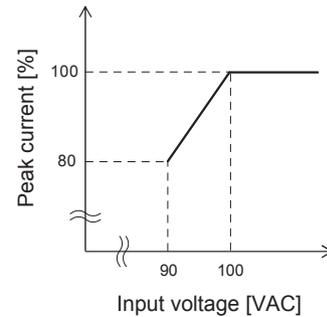

Fig.8.2 Peak current derating curve depending on input voltage
- $I_p \leq \text{Rated peak current}[\text{A}]$  Refer to Fig 8.2